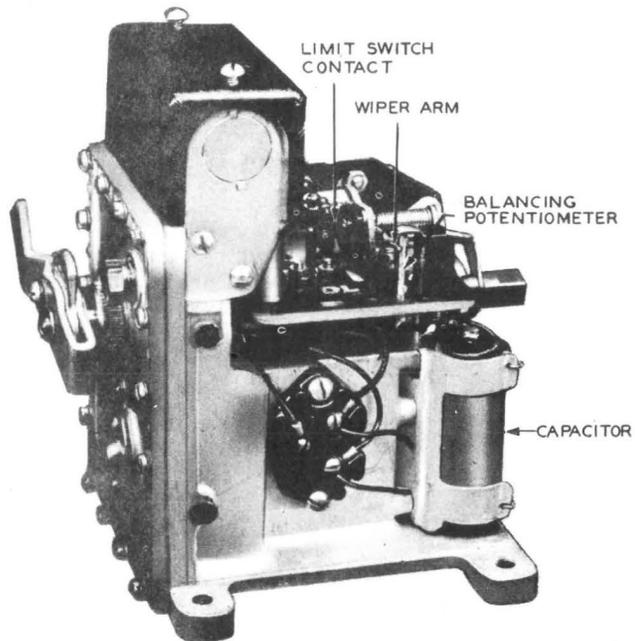
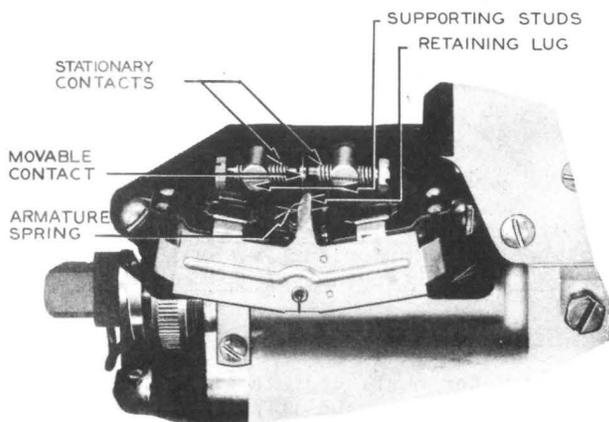

Fig. 4 - M904E-type Shutter Motor - Cover Removed
Fig. 5 - Balancing Relay - Shown in Neutral Position
1.09 The M904E-type shutter motor (see Figs. 4 and 5) is used to operate a shutter which is intended to be held in any position from fully opened to fully closed as required. It is controlled by the type T915C controller.
- (1) If the motor fails to open or close its shutter, as required, look for open leads, short circuits, or poor contacts in the motor and controller. If the operation in intermediate positions of the shutter is erratic, look for poor contact of the wiper arms of the balancing potentiometer in the motor or controller. See Fig. 4. If hunting is experienced, see that the balancing relay in the motor is meeting its requirement. See Fig. 5.
- (2) Maintain the contacts of the limit switches in accordance with 3.18 which applies to the maintaining switch of the M204A-type motor.
- (3) Clean the contact surfaces of the balancing potentiometer and its wiper arm with a cleaning cloth moistened with petroleum spirits, followed by a dry cloth.
- (4) Adjust the contact pressure of the wiper arm by forming the flat part of the arm, as required. Use the KS-6015 duck-bill pliers.
- (5) Clean the contacts of the balancing relay with a cleaning cloth moistened with petroleum spirits, followed by a dry cloth. With the burnishing tool, reduce build-ups as required to insure satisfactory operation.
- (6) If necessary, bring the movable contact to its required position by adjusting the retaining lug with the duck-bill pliers. Avoid changing the tension of the armature spring.
- (7) To measure the contact separation, operate the relay by hand and apply the gauge between the open contacts. Adjust by using the No. 388A tool to turn the contact supporting screws as required. See that they project equally from the supporting studs.